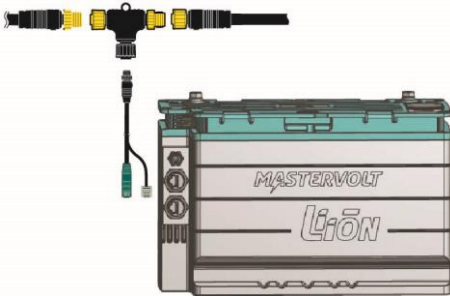

Figure 6: Mastervolt-CZone drop cable
- CZone: connect the drop cable. On the battery side, plug the connectors into either of the communication ports. See Figure 6 on page 16.